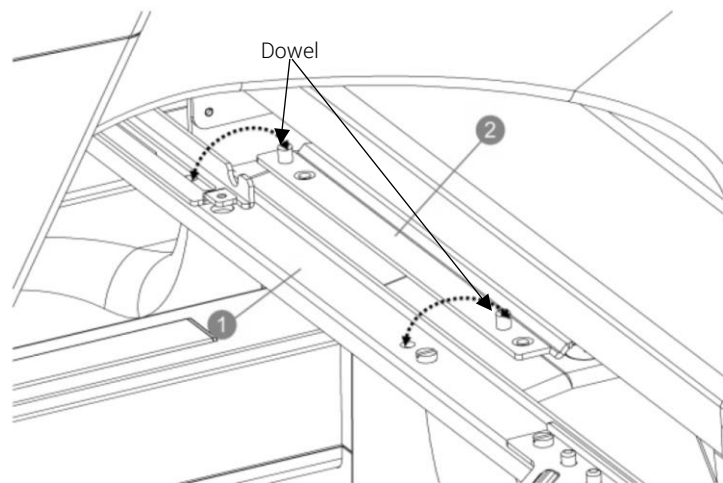

Figure 78
1. Install the flat frame support by aligning the embroidery frame hole with the dowel on the connecting plate. See Figure 78.